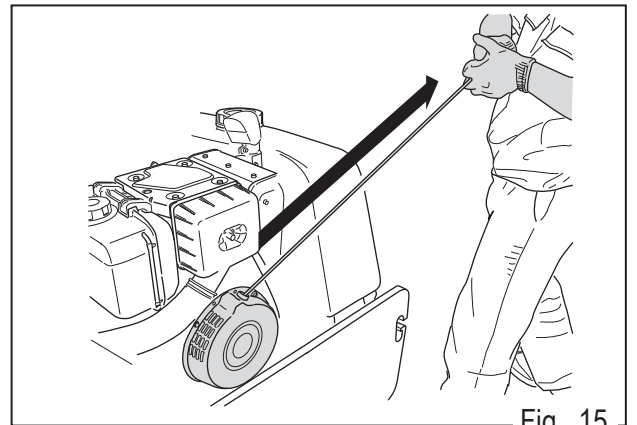

Fig. 15
e. Pull the starting handle back hard and fast. Be aware that if you pull too hard on the rope it may snap. Pull on the starting handle keeping its rope taut and slowly bring the starting handle back to the recoil starter body without letting go of it.(Fig.15)